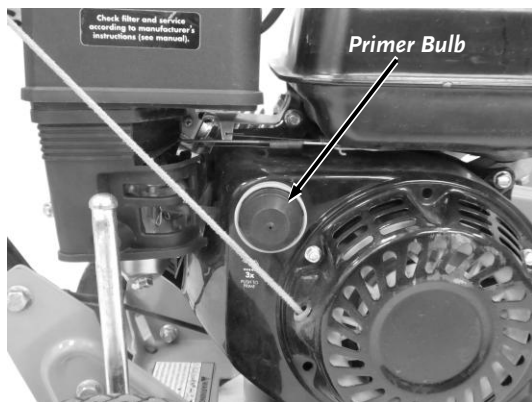

Figure 10
3. **Starting a cold Engine only:** Push the Primer Bulb three times (**Figure 10**). Wait two seconds between each push.